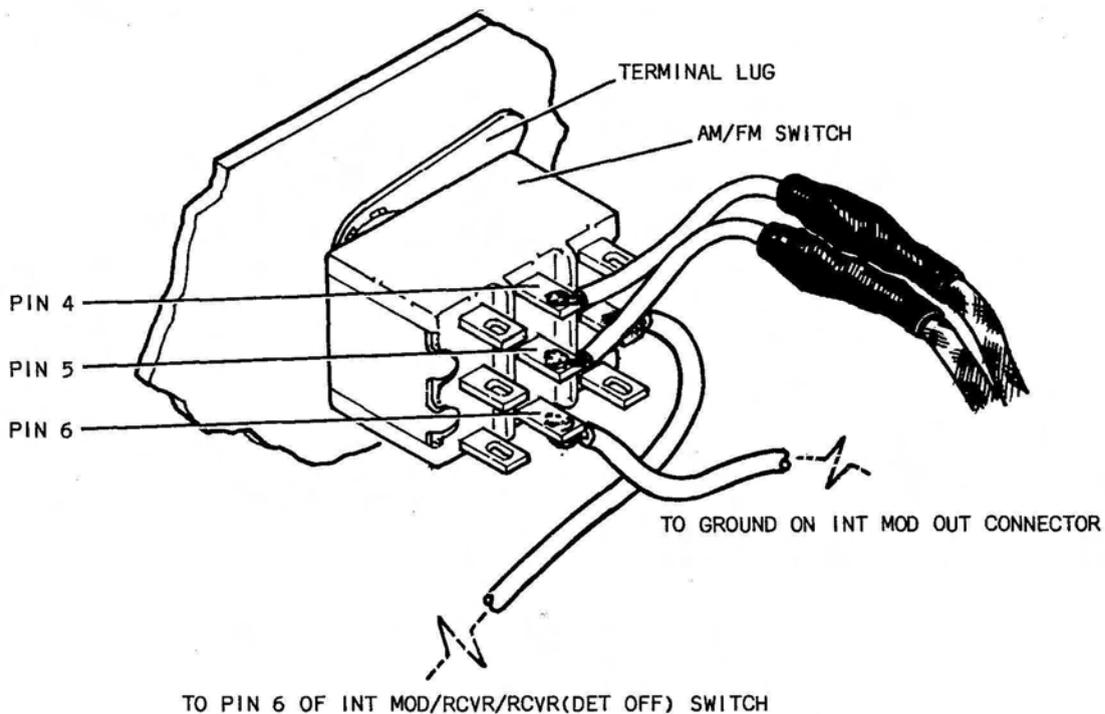

Figure 6-14 AM/FM Switch Installation
J. AM/FM Switch (15) by attaching:
1. Terminal lug (14) and switch (15) at rear of panel (72); flat washer (58) and hex nut (59) at front of panel (72).
2. Ensure that switch is installed as shown in Figure 6-14 before soldering wires.